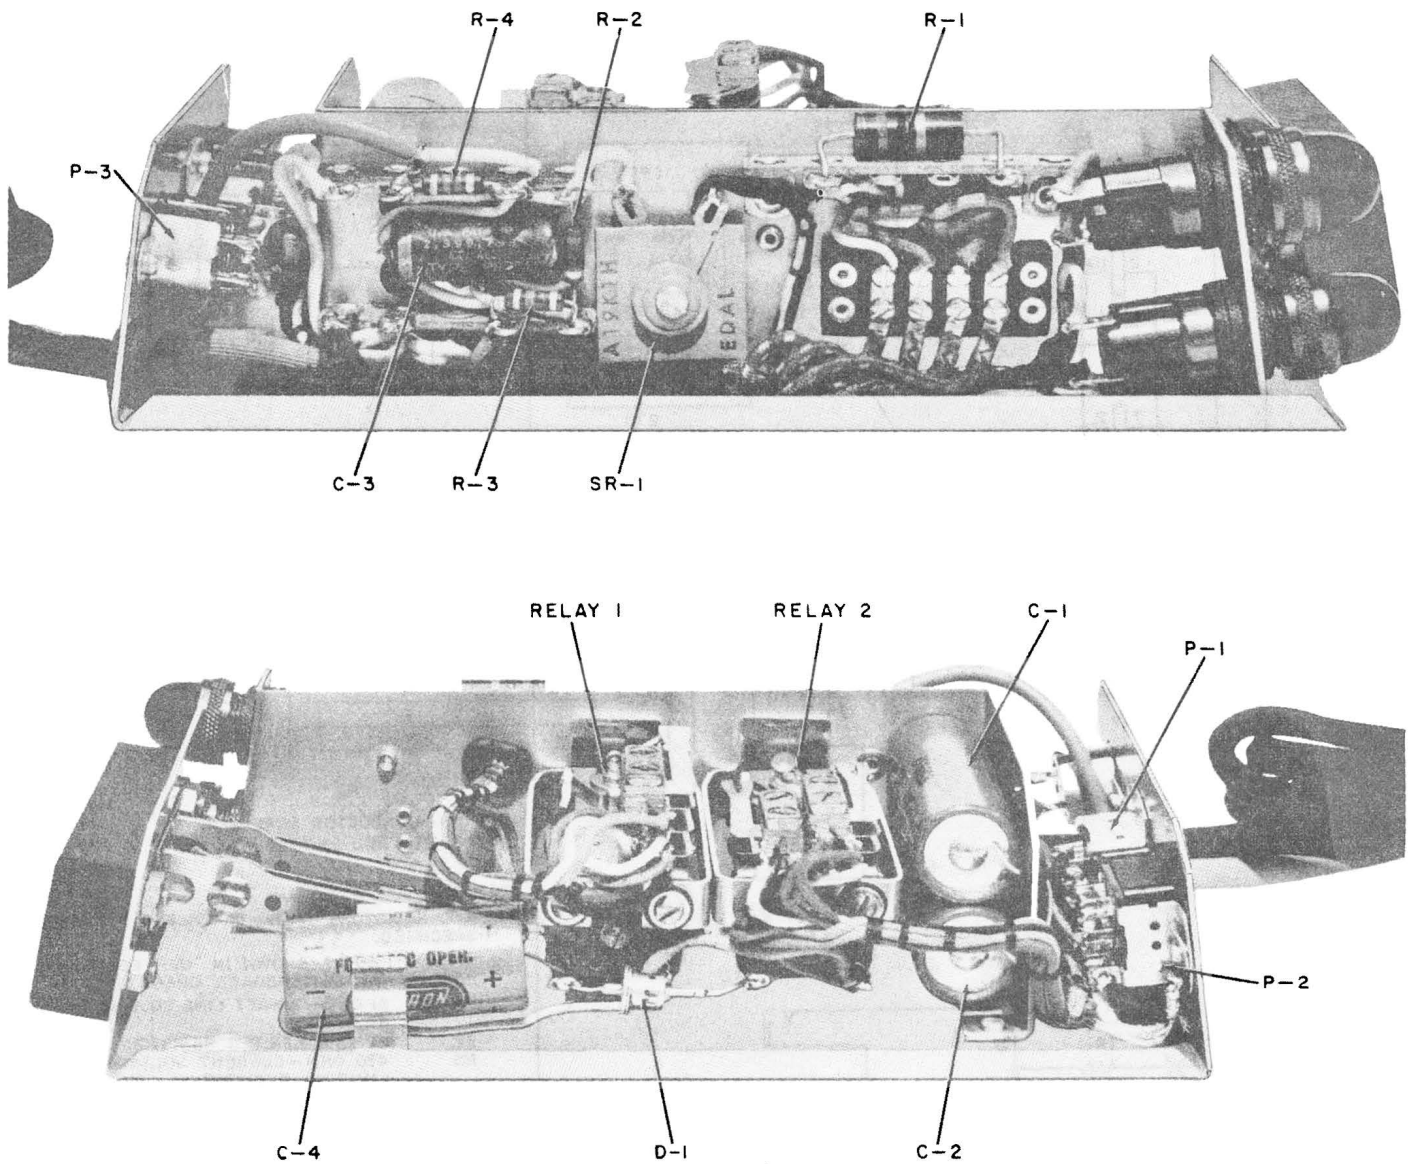
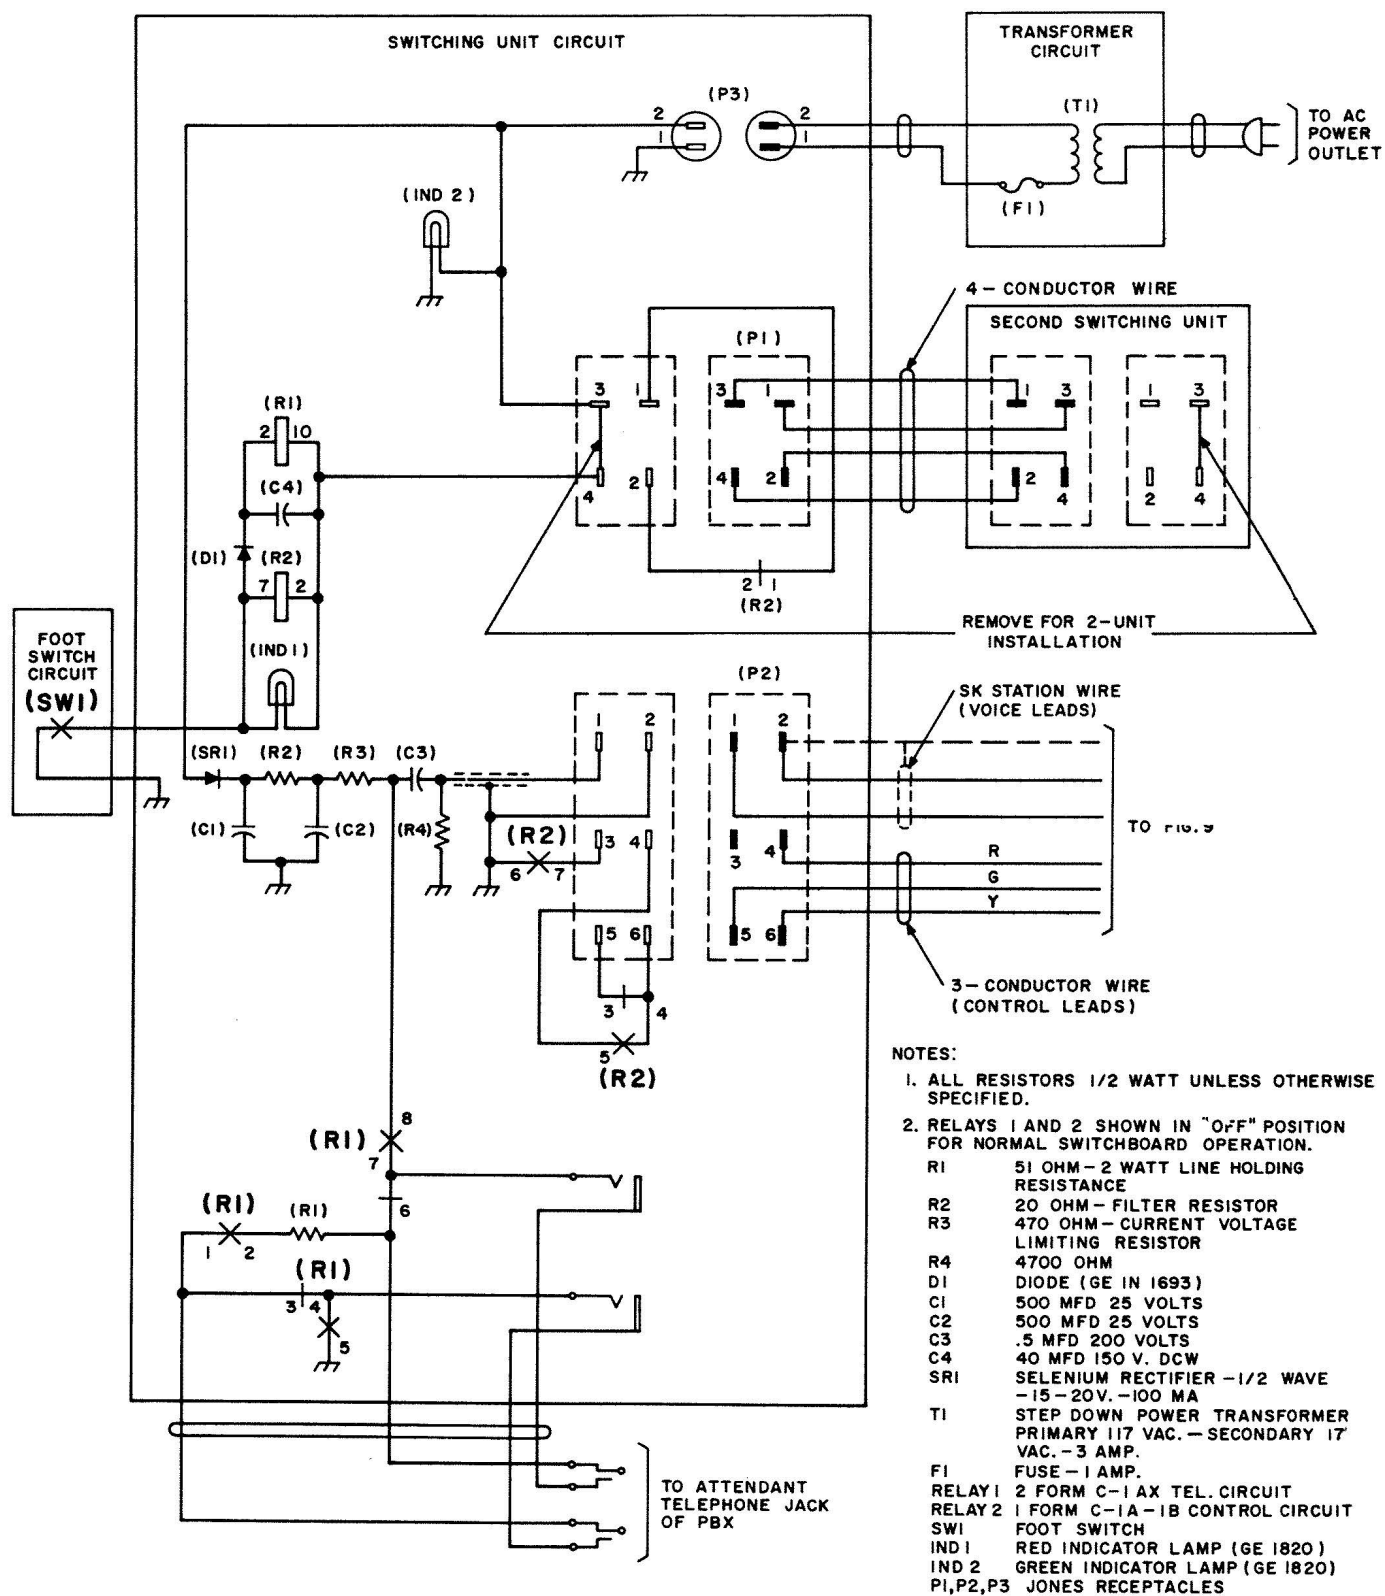

Fig. 7 — Switching Unit with Cover Removed
Fig. 8 — Transmitter Transfer Unit Schematic
4.01 Fig. 7 shows the components of the switching unit. Fig. 8 shows the termination of the SK station wire (voice leads) and the 3-conductor station wire (control leads) at the 6-prong plug (P2). Fig. 8 also shows the termination of the 4-conductor station wire required when two switching units are installed.
7.01 Fig. 7 shows the location of the various components of the switching unit. Fig. 8 shows the schematic and list of components. Local instructions should be followed during replacement of components for maintenance reasons. See 2.05 for ordering information.